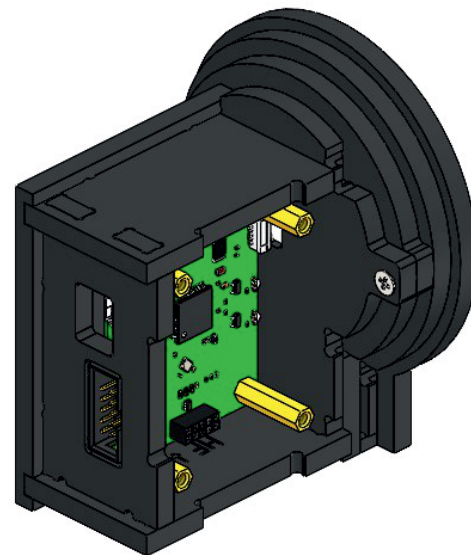

Fig. 70: Joining with the side wall
6) Join the side wall with the rest of the structure. To do that, align holes in side walls with protrusions of top and bottom plates, rear wall and rings and make them latch. Then secure the circuit board by means of PCHSN M3x18 female-threaded brass studs (4 pcs.)(Fig. 70)